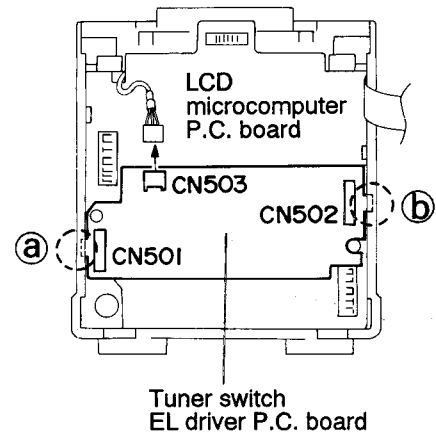

Fig. 5-20
4. After removing the knob from the front face of the body and two screws ⑫, dismount the volume escusion.
■ Removing the tuner switch EL driver P.C. board and microcomputer P.C. board (See Figs. 5-20 and 5-21)
2. • Remove the one screws (13).